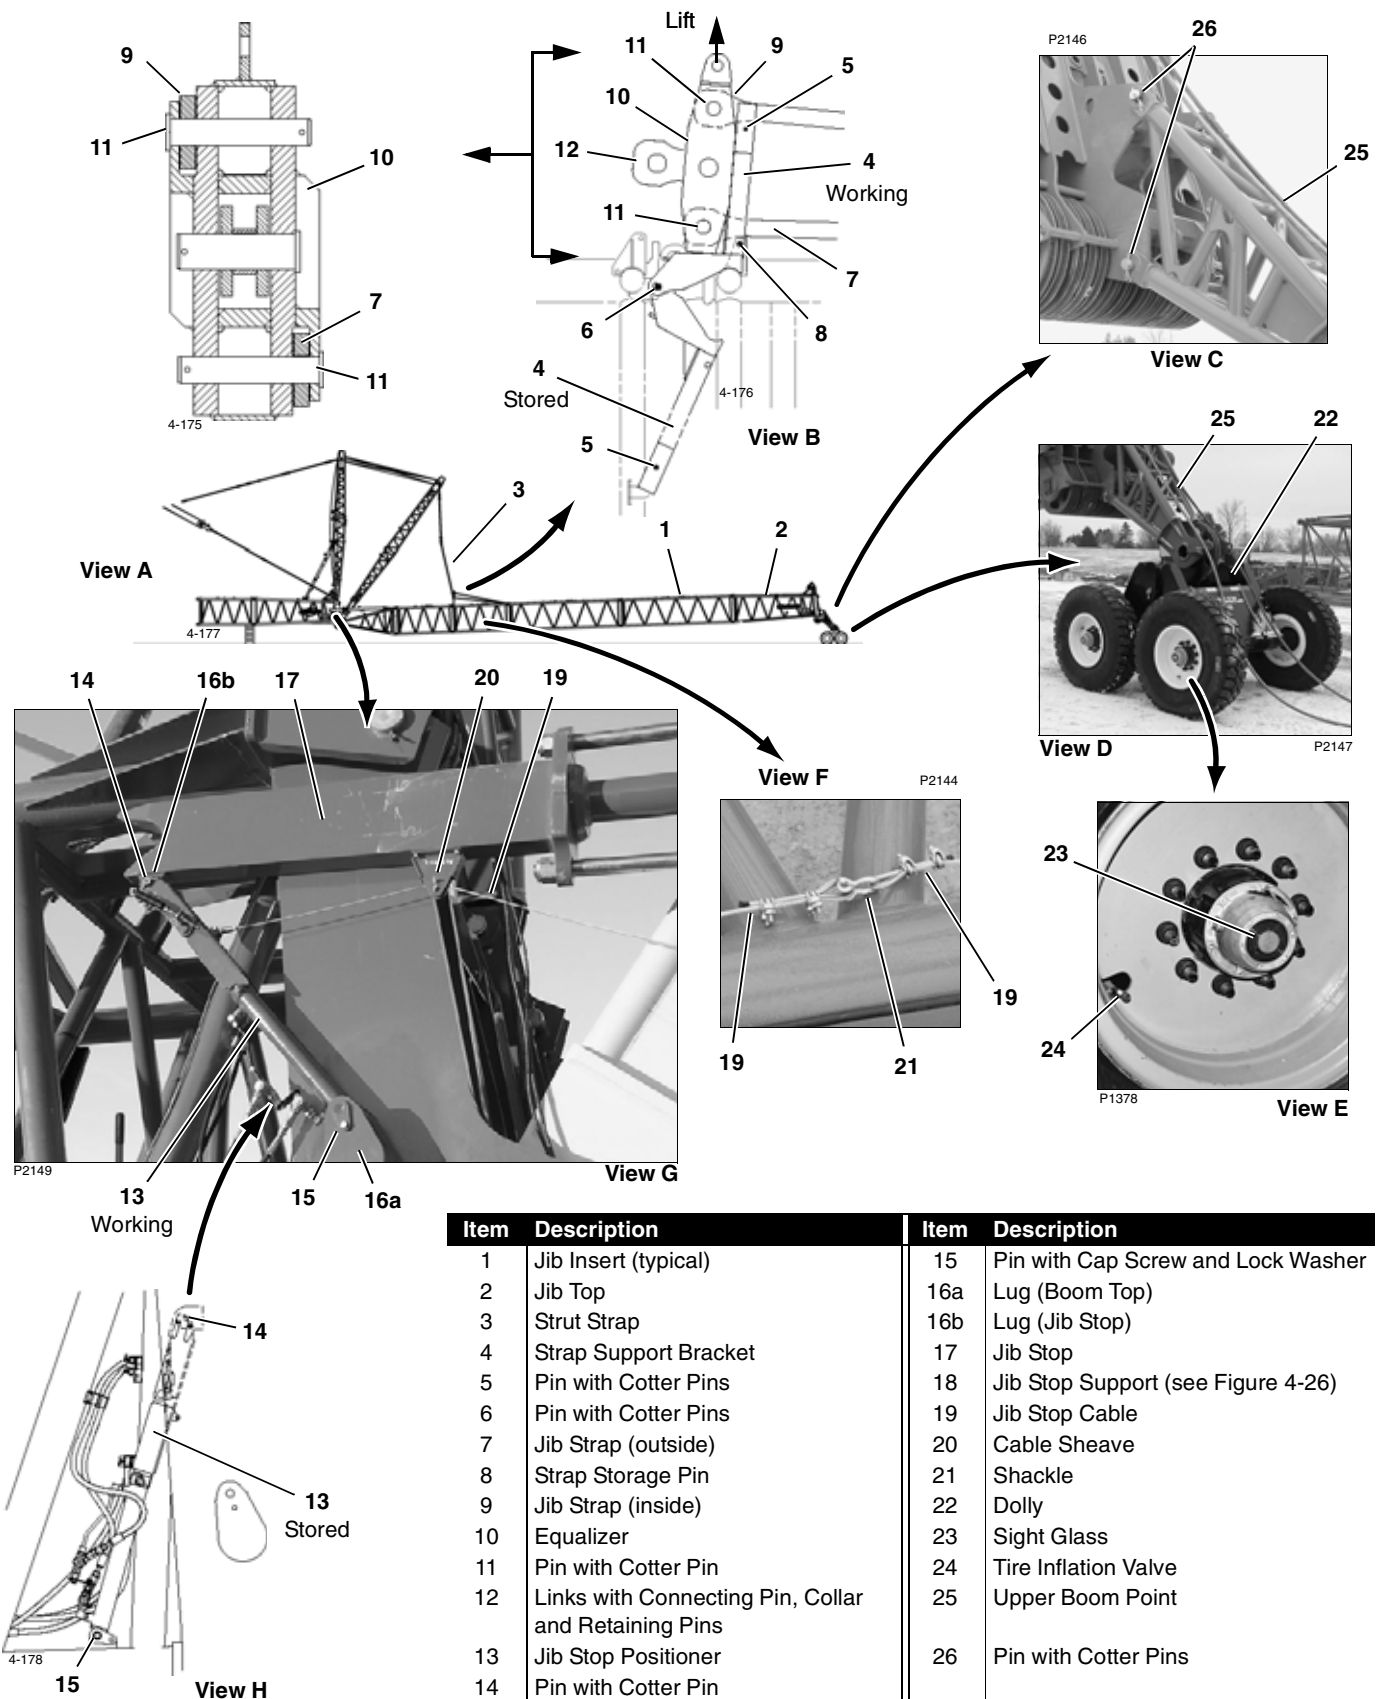

FIGURE 4-27
See Figure 4-27, View B for following procedure.
See Figure 4-27 for following procedure.
See Figure 4-27 for steps d - h in following procedure.
2. Route cable (19, Figure 4-27, View G) through cable sheaves (20) on jib stop and in boom butt and pin cable to jib stop.
See Figure 4-27 for following procedure